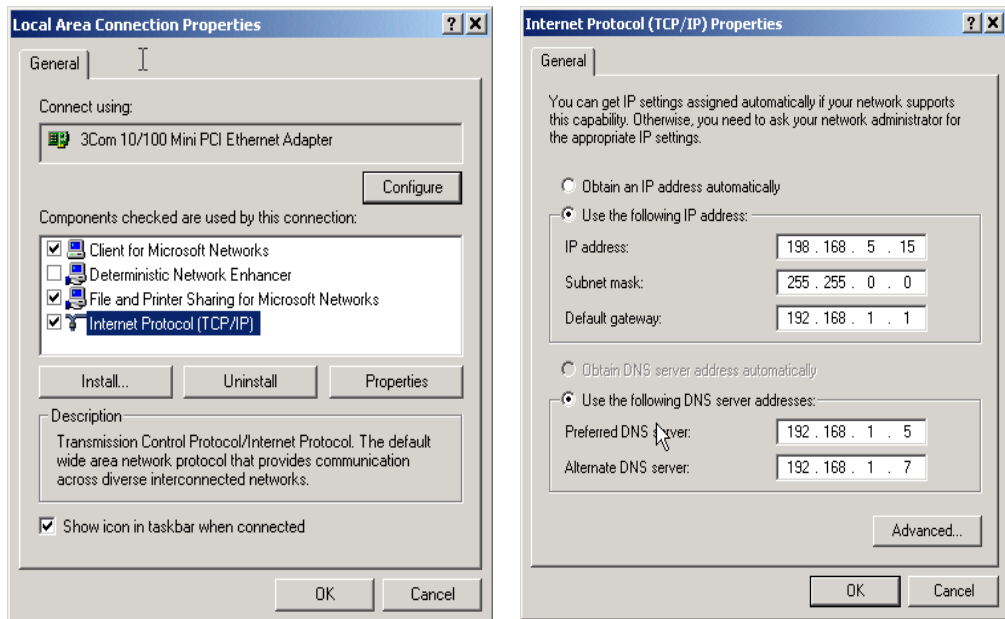

Figure 5-1 Windows 2000 IP Address Setting
4. Ensure that the computer has a fixed IP address, and not one set by a DHCP server. Figure 5-1 gives an example of setting a fixed IP address on Windows 2000; be sure to select Use the following IP address. It does not matter what IP address, network mask, and gateway are used.